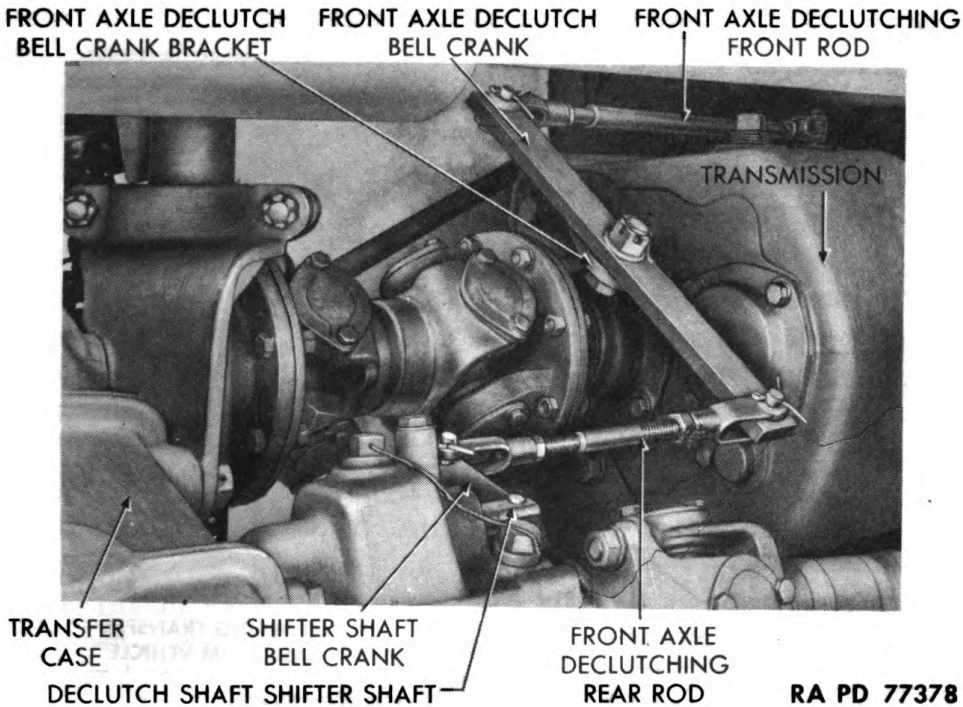

Figure 62 — Transmission Case Linkage
e. **Disconnect Front Axle Declutching Rods** (fig. 62). Remove cotter key and clevis pin at both ends of both rods. Remove rods.
- e. Install Front Axle Declutching Rods** (fig. 62). Position rods between declutching rod yoke and right-hand bell crank yoke and